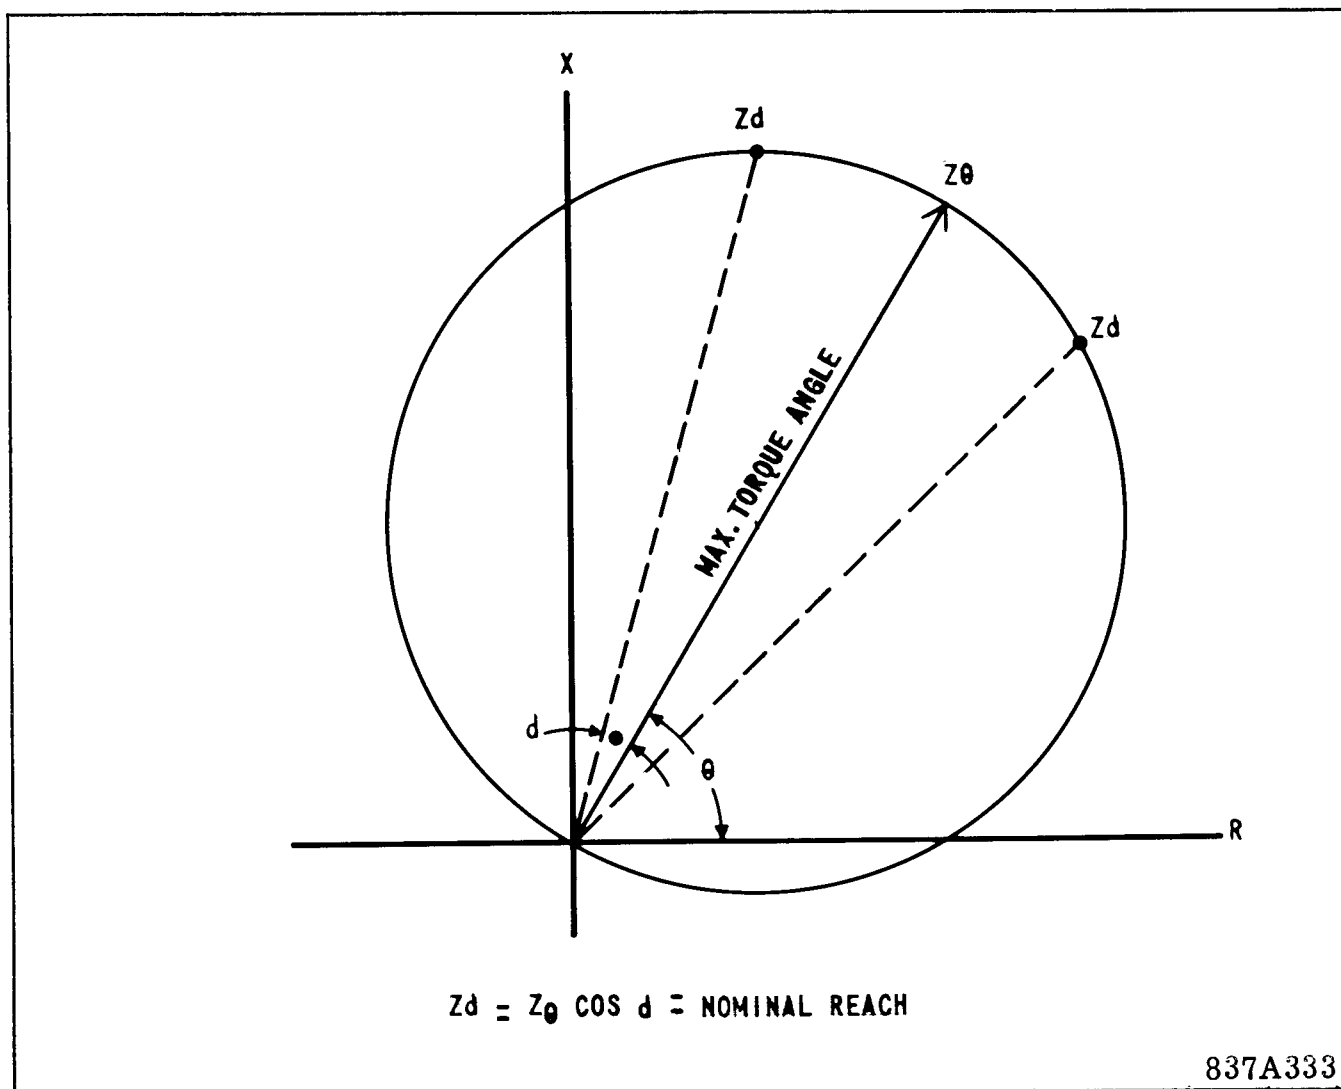

Fig. 4 Test Unit Check Points
V.R. x (MF) 3ϕ
5. Compare test results with nominal reach, Z_d , where $Z_d = Z_{\theta} \cos d$. Where d is defined as per Fig. 4, as the difference between the maximum torque angle of the relay and the test box angle P (Table III).